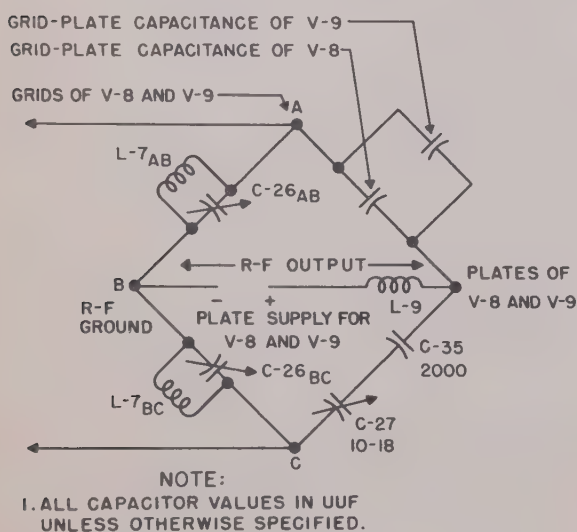

Figure 42. Radio Transmitter Model 96D, functional diagram of neutralizing circuit
57. Neutralization (fig. 42)
a. Figure 42 shows the r-f paths entering into the neutralizing process. The r-f energy from the third amplifier is impressed across coil L-7 and variable capacitor C-26. Coil L-7 is center-tapped and is effectively at r-f ground potential at the center tap. Capacitor C-26 is a two-section unit, and one set of plates in each unit is at ground potential. The voltage across section AB of L-7 and C-26 is fed to the grids of V-8 and V-9 to be amplified. The amplified voltage appearing across L-9 causes r-f current to flow in capacitors C-35 and C-27 and section BC of L-7 and C-26. The current through section BC of L-7 induces a voltage opposite in phase to the voltage in section AB of L-7 caused by the current flow through the grid-to-plate